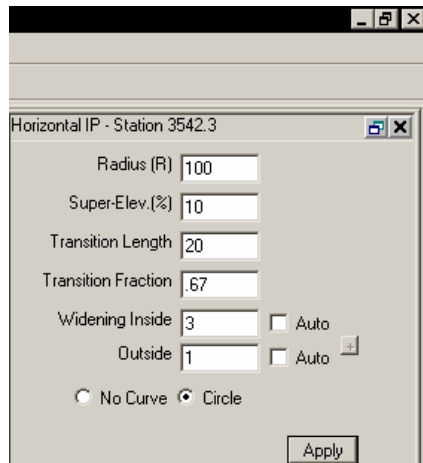

Figure 5.11: Top Part of the Horizontal Curves Panel
3. Select *Circle* in the top of the Horizontal Curve Panel and type in the data shown in Figure 5.11. Press *Apply*